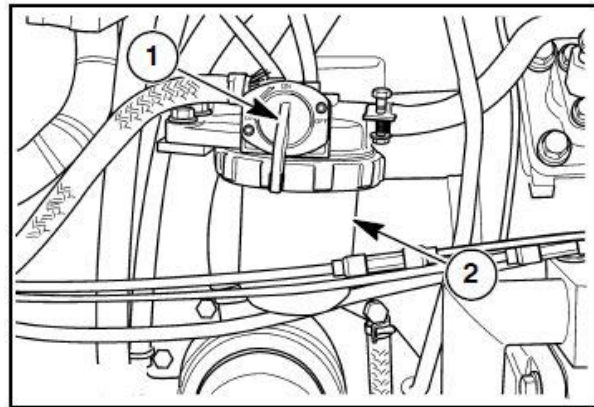

Figure 3-7
1. Make sure there is adequate fuel in the fuel tank and close the fuel shutoff valve (1) in Figure 3-7, (the handle should be pointing to the "OFF" position). Remove the fuel sediment bowl (2) in Figure 3-7.